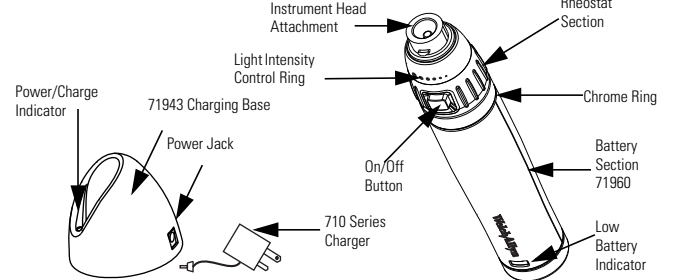

Figure 1
- Depress On/Off Button on Rheostat Section and rotate the Light Intensity Control Ring clockwise (CW). To intensify light, continue to rotate until stop is reached (Figure 1).
- Plug the Charger into a wall outlet and the Power Jack on the Charging Base. The Power/Charge Indicator will illuminate (green) when power is applied (Figure 1).
- The Low Battery Indicator will illuminate several minutes before handle shuts off depending on the age of the battery (Figure 1).